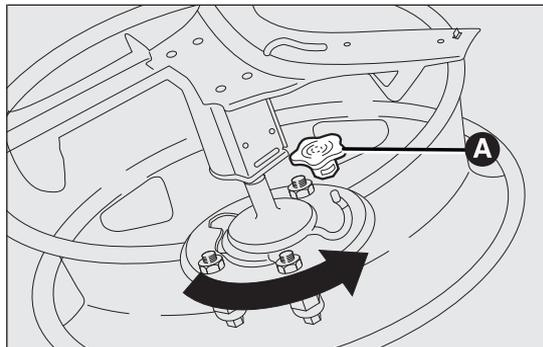

fig. 125
- Fix the toothed support on the wheel by means of two screws (insert in the outer wheel support). Refit the restraining metallic wire in the seat and refit the protective cap A fig. 125;